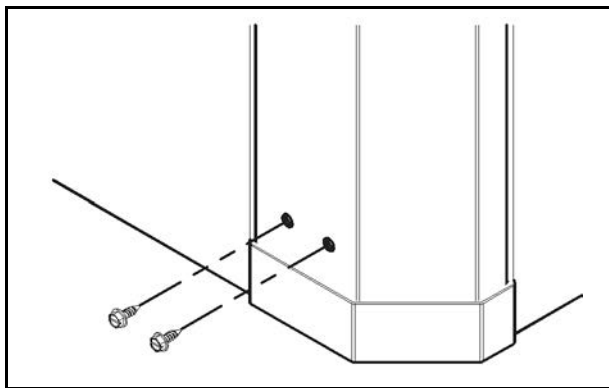

Fig. 46
1. Remove and discard factory provided screws from locations where hanging brackets will be installed as shown in Fig. 46.